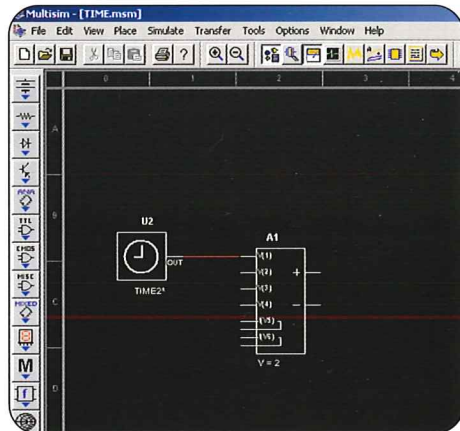

Figure 5 - Nonlinear dependent source being used to generate a sinusoidal source.
For example, a sinusoidal signal can be generated by entering the above expression into the nonlinear dependent source and feeding it with the output of the time subcircuit V(1) as shown in Figure 5. The amplitude, constant, and the frequency are replaced with their real values. To generate a similar Cosine signal, simply replace the SIN command with a COS command in the nonlinear dependent source. Similarly, by simply changing V= to I= in the nonlinear dependent source, every signal can be generated as a current source. This same basic technique can be extended to many and more complex applications, some of which are described below.